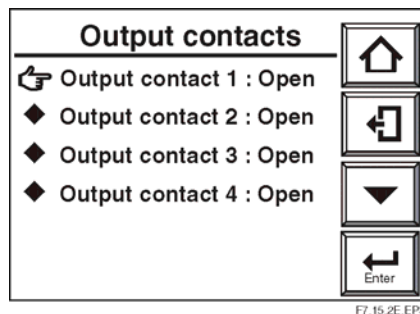

Figure 7-19 Output Contact Check Panel Display
2. Select "Contact check" in the Maintenance panel display screen then "contact output". The Output contacts display then appears (see Figure 7-19).